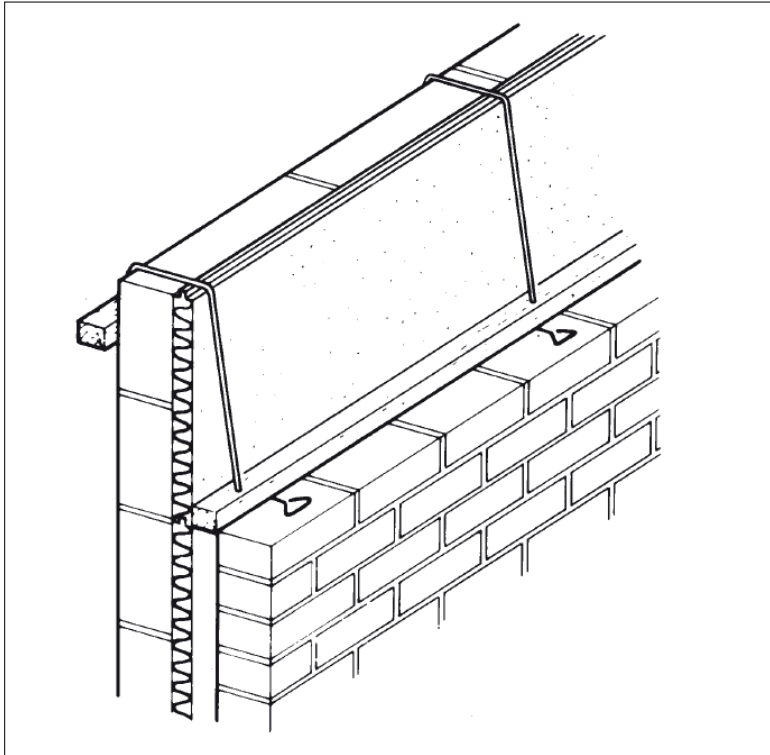

Figure 3 - Use of cavity batten
- A 10 mm residual cavity should always be maintained between IKO enertherm Full Fill insulation board and external wall leaf. The cavity can be protected from moisture, and allow airflow for drying by traditionally utilising a square dressed timber batten allowing moisture drainage (figure 3)